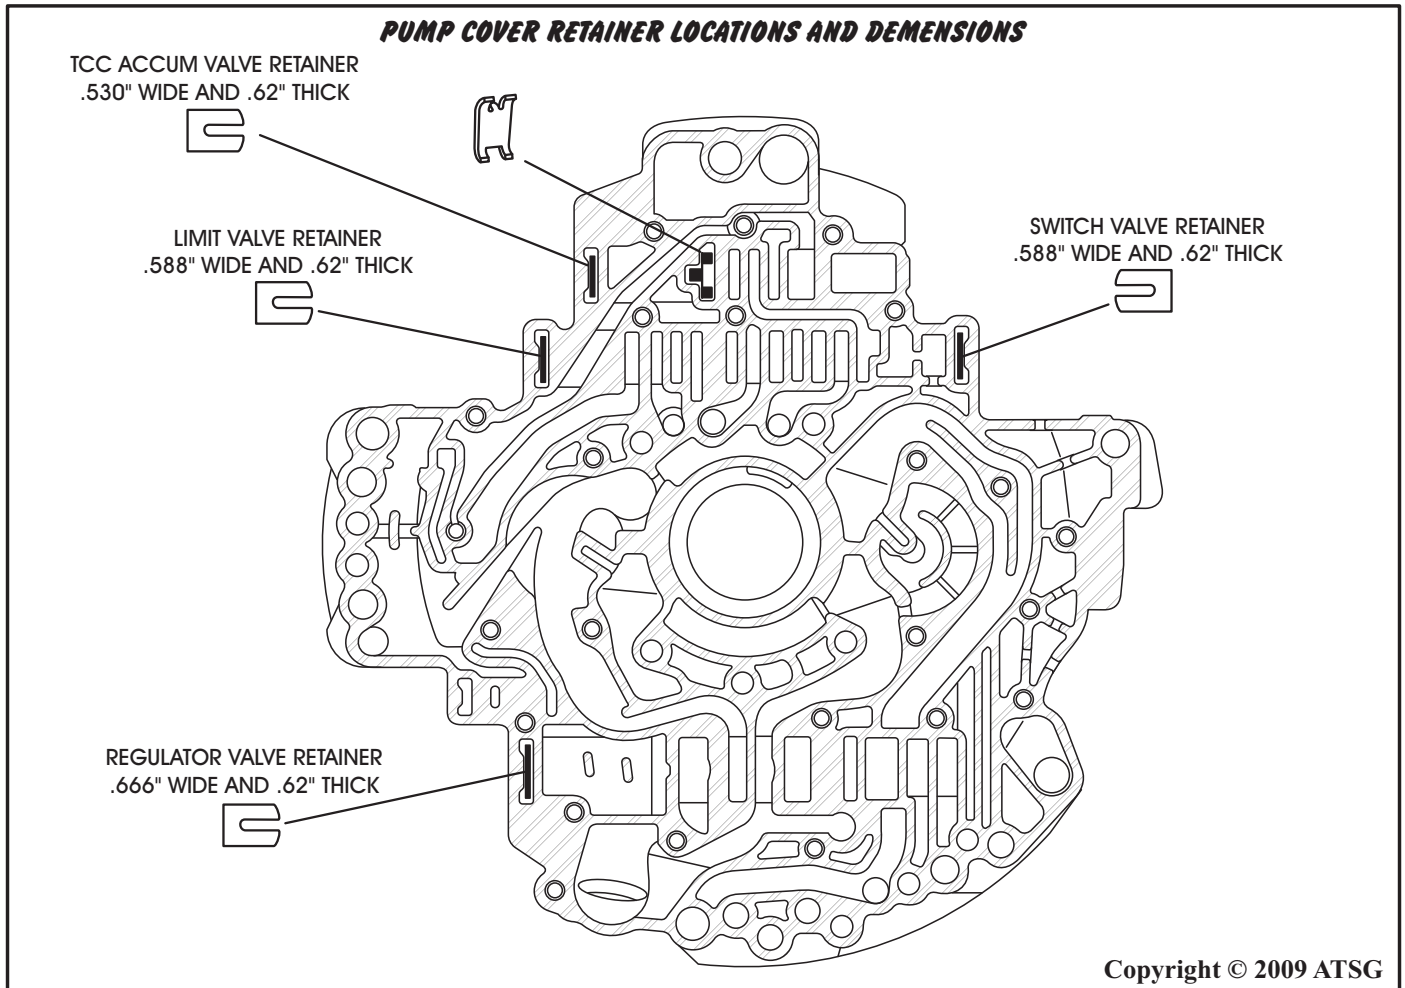

Figure 90
10. Refer to Figure 90 for the exact cavity location in the pump cover for the various retainers.